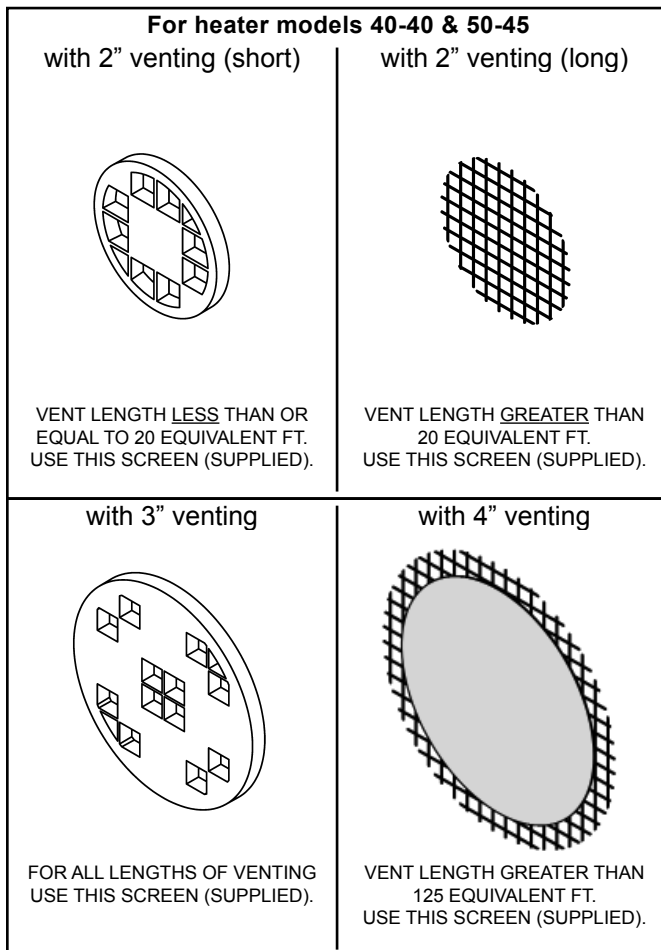
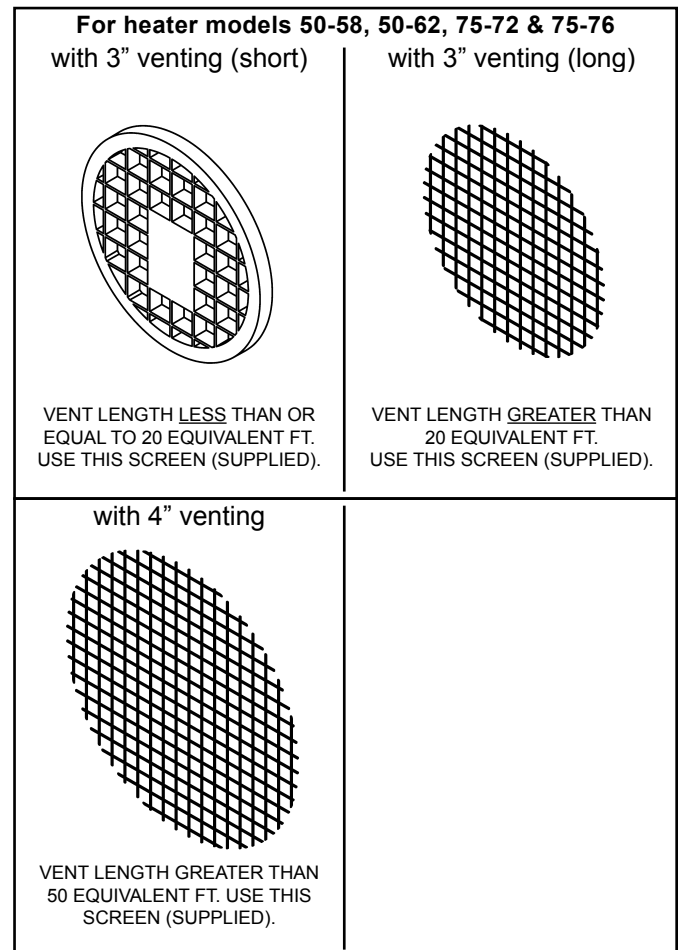

Figure 28
Figure 29
Use the Vent Termination Screen as shown in Figure 28 & Figure 29. Install the Vent Termination Screen in the Termination Elbow on both the air intake pipe and the exhaust pipe.
* see Figure 28 and Figure 29
Installed in the vent termination elbow, the vent screen is required to keep foreign objects, rodents and small birds from entering the venting system. These screens have been sized to ensure maximum energy efficiency of the vent system based on the “equivalent length” of the vent piping. **CHOOSE ONLY the ONE SCREEN THAT MATCHES YOUR VENTING CONFIGURATION** (see Figure 28 & Figure 29). How to determine the “equivalent length” is shown in Table 3.
- Supplied with this heater are several vent termination screens (see Figure 28 & Figure 29).
- Plastic screens must be secured with (2) drops of silicone sealant. This will allow for easy removal for inspection and cleaning.